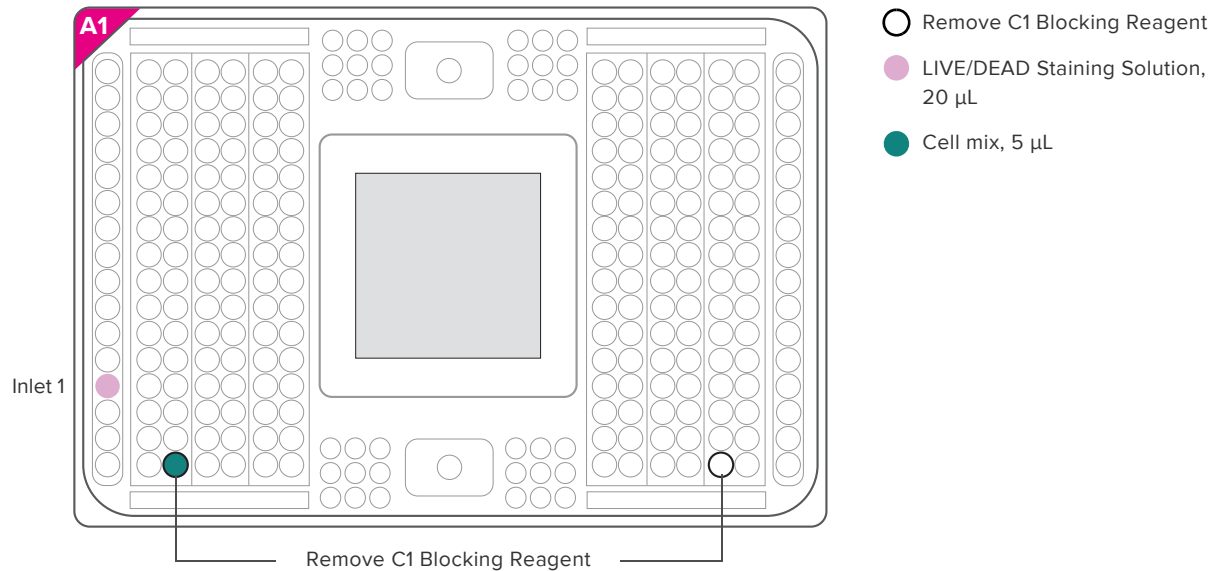

Figure 4: C1 IFC loading pipetting map
- 1 Remove blocking solutions from cell inlet and outlet marked with teal and white dots in Figure 4.